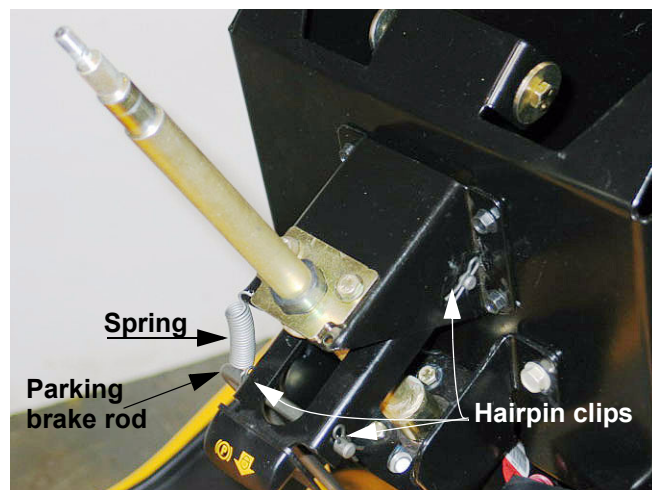

Figure 3.3
- 3.3. Remove the hairpin clips and spring that secure the parking brake rod to the brake lever bracket. See Figure 3.3.